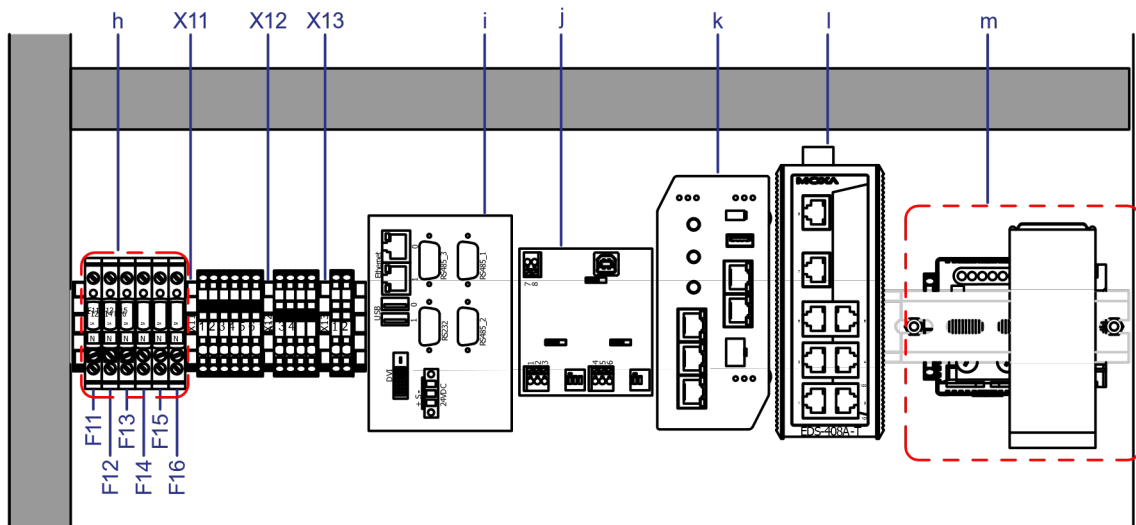
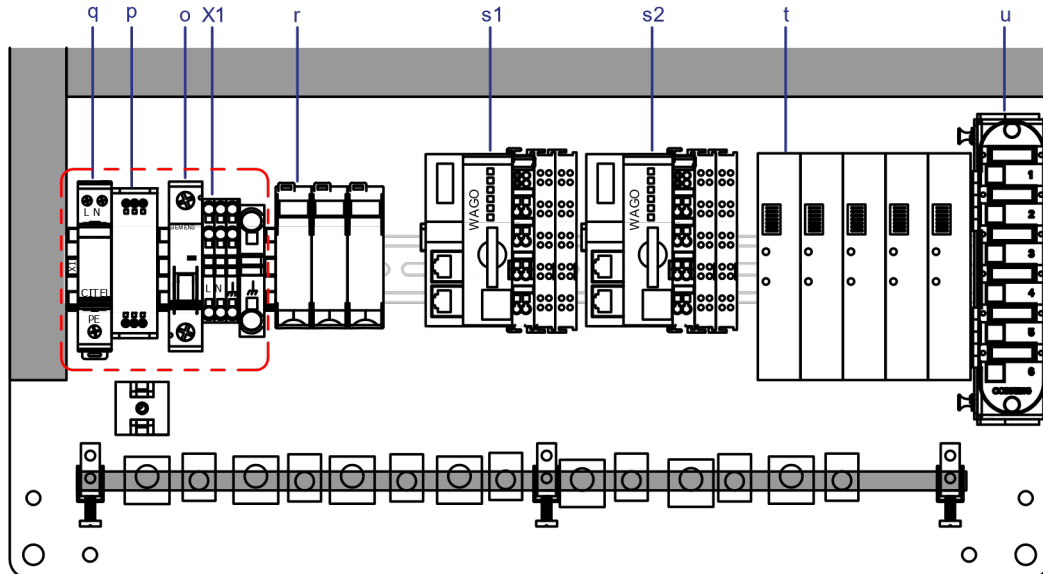

Fig 5 Monitoring & network module, details
Fig 8 Connection module, details
**Danger to life! The area marked red in Fig. 8 below is energized.**
2. Connect the cable(s) either to the overvoltage arrester(s) (q in Fig. 8 on p. 12) or to the Ethernet switch (k in Fig. 5 on p. 11).